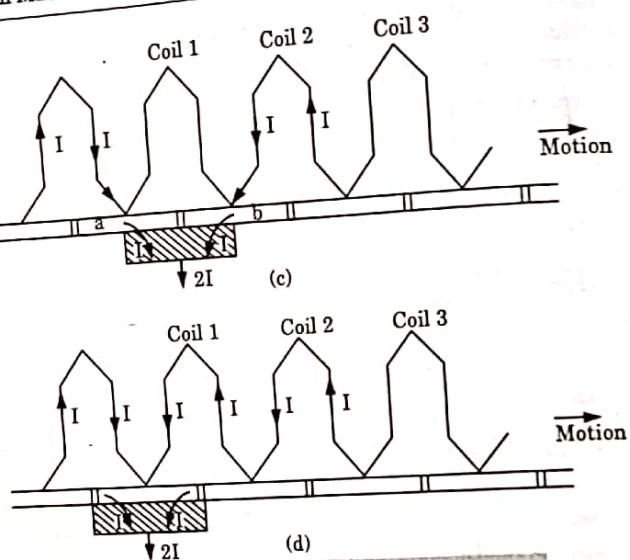

Fig. 2.12.1. Current collection at the commutator.
6. These changes are shown in Fig. 2.12.1. For simplicity, consider a simple ring winding.
7. In position shown in Fig. 2.12.1(a), the current  $I$  flowing towards the brush from the left-hand side pass round the coil in a clockwise direction.
8. In position shown in Fig. 2.12.1(b), this coil carries the same current in the same direction, but the coil is to short circuited by the brush.
9. In position shown in Fig. 2.12.1(c), the brush makes contact with bars  $a$  and  $b$ , thereby short circuiting coil 1. The current is still  $I$  from the left-hand side and  $I$  from the right-hand side.
10. Fig. 2.12.1(d) shows that bar  $b$  has just left the brush and the short circuit of coil 1 has ended. It is now necessary for the current  $I$  reaching the brush from the right-hand side in the anticlockwise direction.